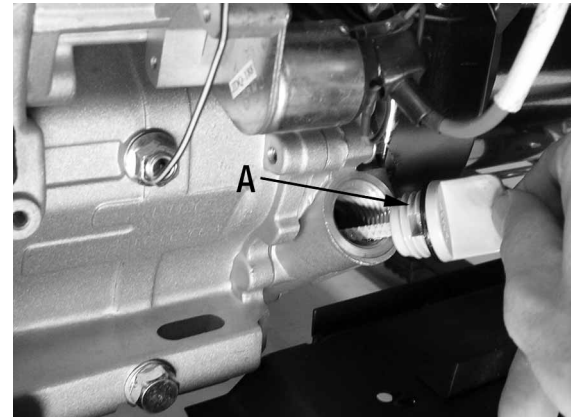

Figure 5
- 1) Turn the oil gauge dipstick (A) Fig.5 counterclockwise, remove it and clean it with a clean cloth.